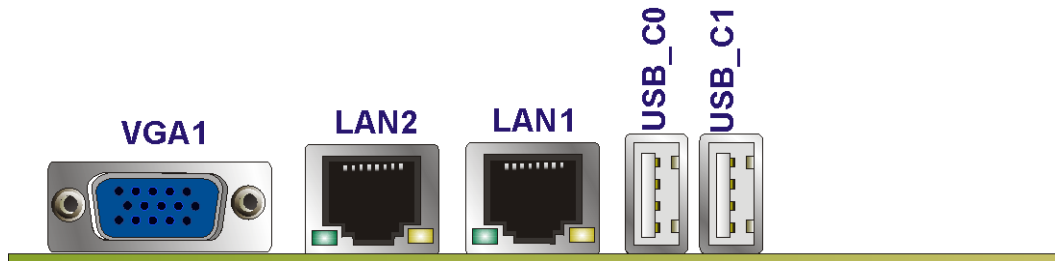

Figure 4-22: 3308290 External Peripheral Interface Connector
Figure 4-22 shows the 3308290 external peripheral interface connector (EPIC) panel. The 3308290 EPIC panel consists of the following:
- CN Location:** See **Figure 4-22**
CN Location: See Figure 4-22